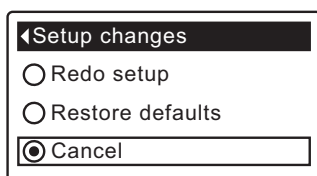

FIG. 27
1. From any of the rolling status screens, press the SELECT (O) button to display the **Main menu**.
3. Press the SELECT (O) button to display the Advanced settings menu.
5. Press the SELECT (O) button to display the Troubleshooting menu.
7. Press the SELECT (O) button to display the Setup changes menu (See Figure 27).
8. Press the RIGHT (▶) button. The flashing padlock icon will disappear, as shown in Figure 27.
9. Press the SELECT (O) button.